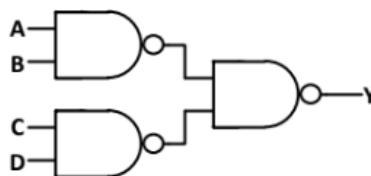

Fig. 3.11
22. Find the logic function implemented by the circuit given below in Fig. 3.11